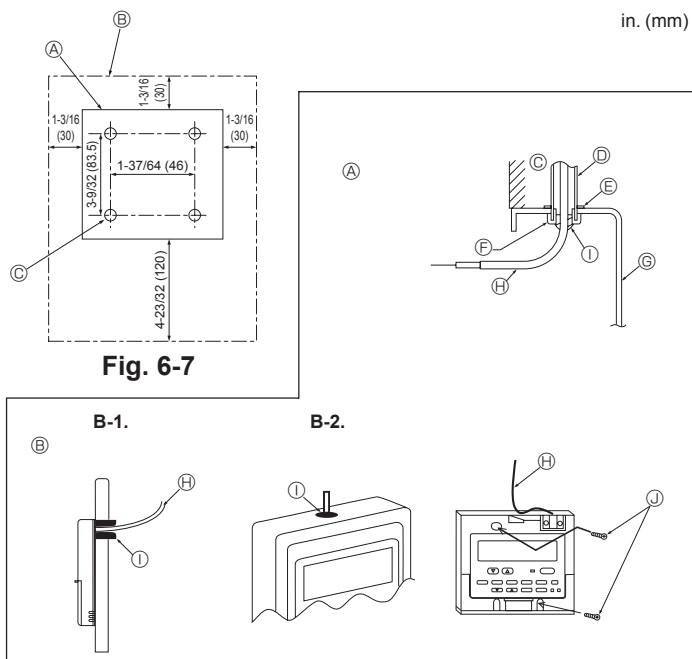

Fig. 6-8
- (2) Seal the service entrance for the remote controller cord with putty to prevent possible invasion of dew drops, water, cockroaches or worms. (Fig. 6-8)